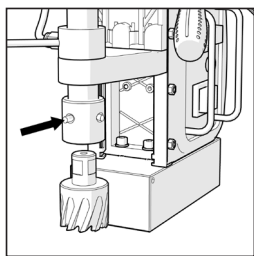

FIG. 6
- Check that the cutter securing set screws located in the arbor are not protruding into the spindle bore. **(Fig.6)**